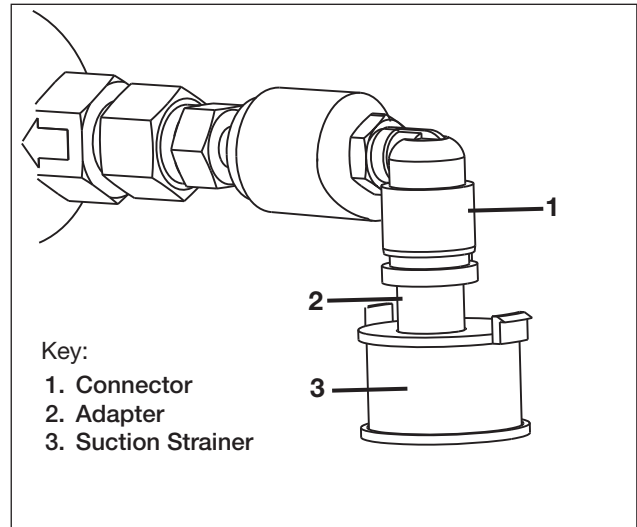

Figure 16 - Suction Strainer
10. Unscrew and remove each oil suction strainer. Discard both used suction strainers. See Figure 16.
11. Install two new oil suction strainers. Be sure that each new suction strainer is oriented as shown in Figure 16. Hydraulic fittings must be assembled so that flat side of suction strainer is parallel with reservoir floor. Refer to the pump repair parts sheet for part number.